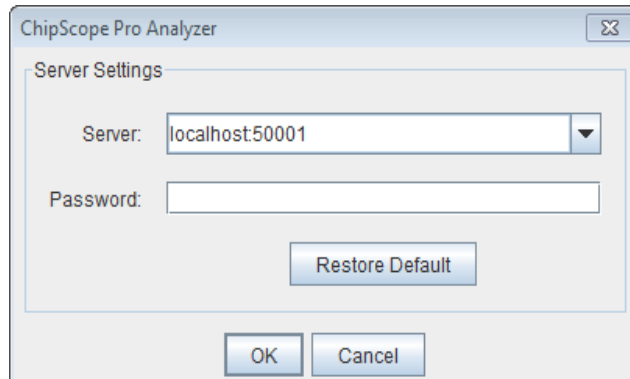

Figure 5-8: Changing the ChipScope Pro Analyzer Server Host Settings
- In the ChipScope Pro Analyzer tool, select **JTAG Chain>Server Host Setting**. Change the server to **localhost:50001** (see Figure 5-8)